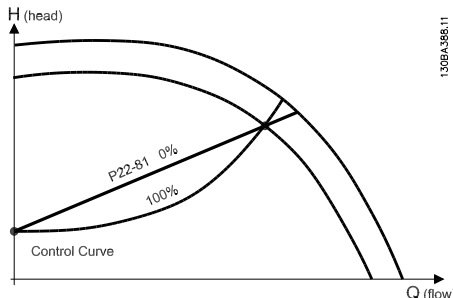

Figure 11. Curve Approximation Settings
The effect of adjusting par. 22-81 is shown in figure 11 below. A setting of 100% gives the ideal theoretical control curve between the design head and minimum head whilst 0% provides a straight line linear approximation.
- 5) Adjust the shape of the control curve using par. 22-81 as shown in figure 11.
- 6) Adjust the shape of the control curve using par. 22-81 as shown in figure 11.